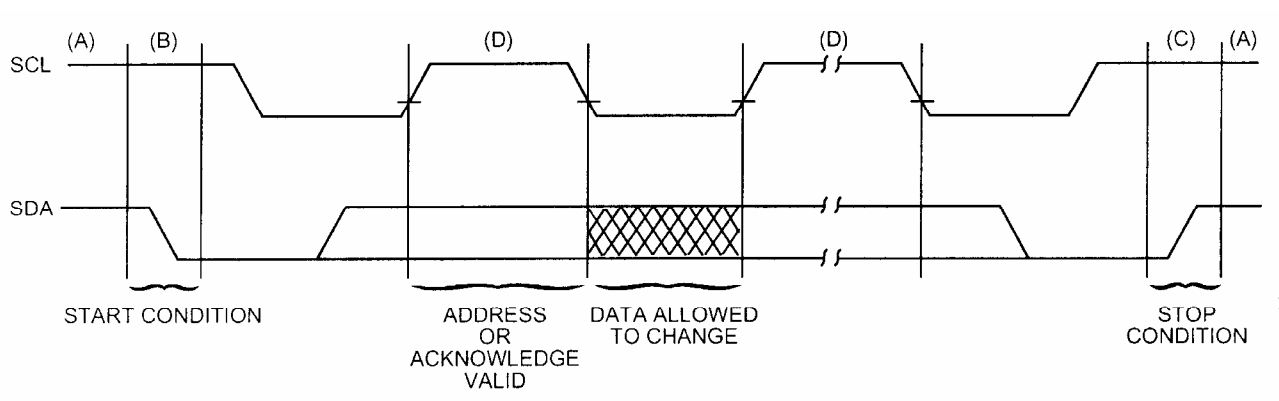

Figure 4. Data Transfer Sequence on the serial bus
- During data transfer, the data line must remain stable whenever the clock line is HIGH. Changes in the data line while the clock line is HIGH will be interpreted as a START or STOP condition. Accordingly, the following bus conditions have been defined (see Figure 4).